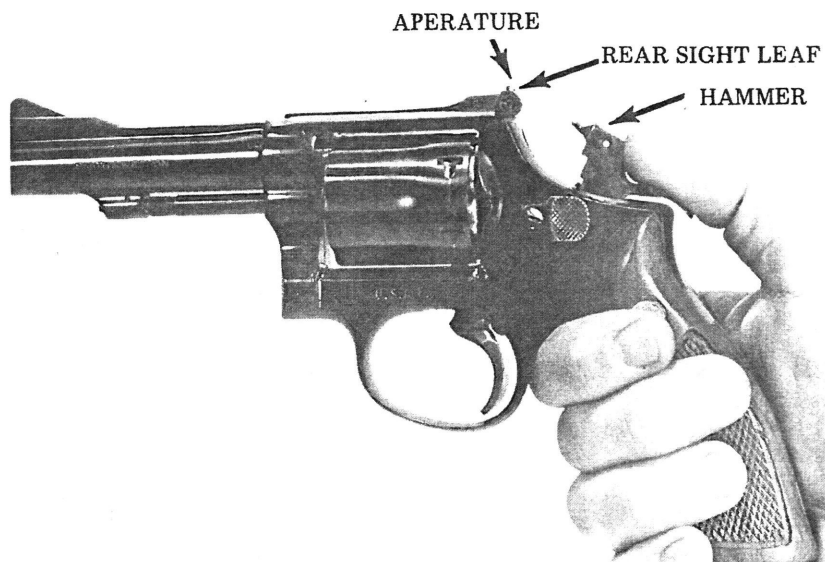

Figure 4-4. Cocking Hammer to Single Action Position
b. Cock the hammer. (See figure 4-4.)
a. If hammer has been cocked, keep weapon pointed down range, hold the hammer with the thumb, figure 4-4, pull trigger and slowly let hammer go forward until it is in the forward most position.